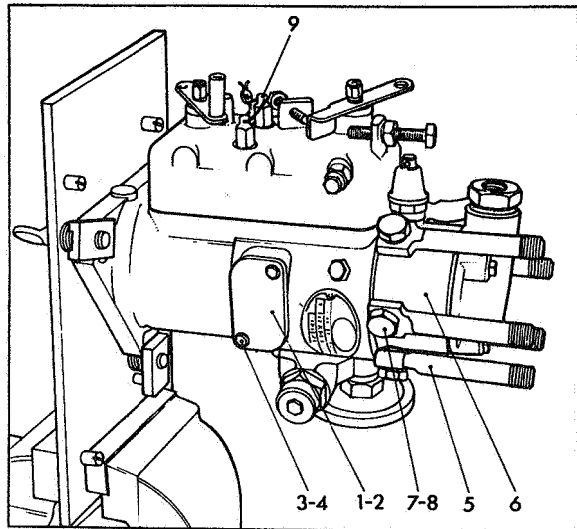

Fig 101 Assembled pump
Assemble inspection cover plate and inspection cover plate gasket (1 & 2) Fig 101 to pump housing and secure with cover plate screws and washers (3 & 4). Tighten screws to correct torque values. Assemble banjos (5) to hydraulic head (6) and secure with connection studs and washers (7 & 8) in their respective positions as noted when dismantling. Tighten all connection studs to the correct torque values. Where possible, check that all other components have been tightened to the correct torque values. These are listed on Page 40.